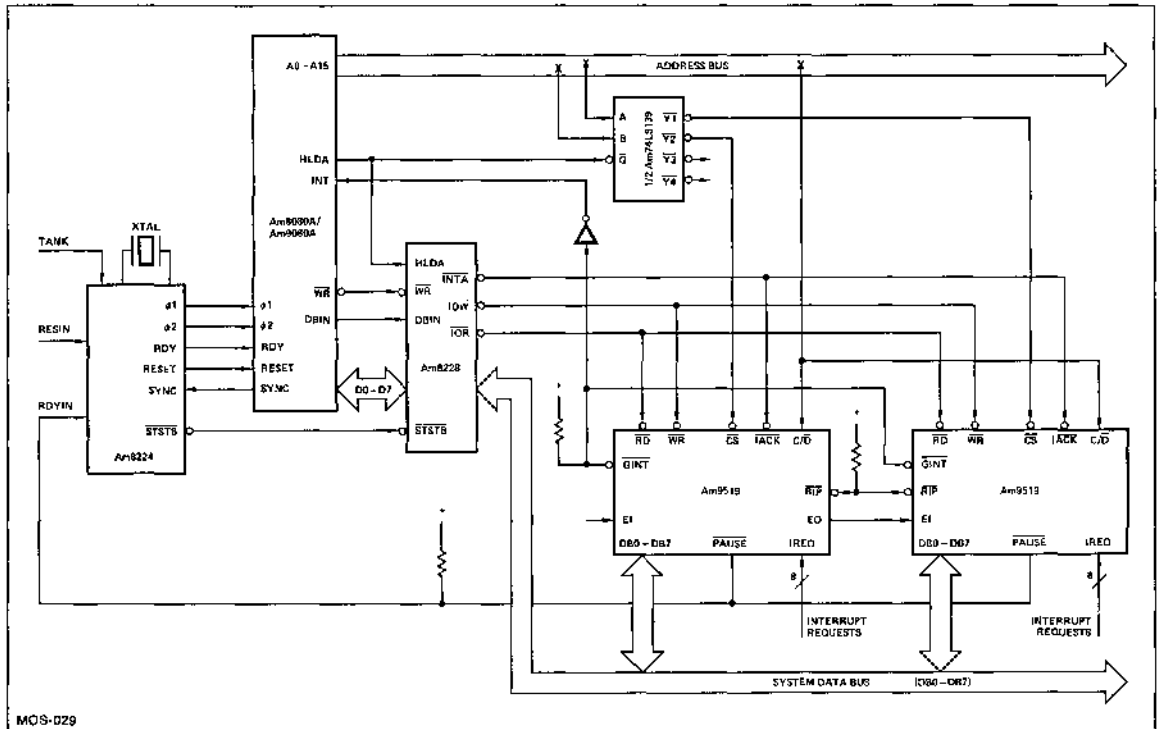
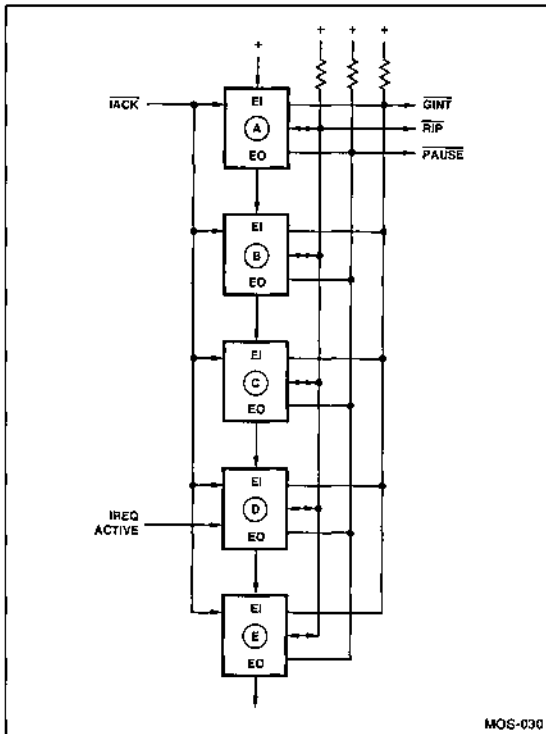
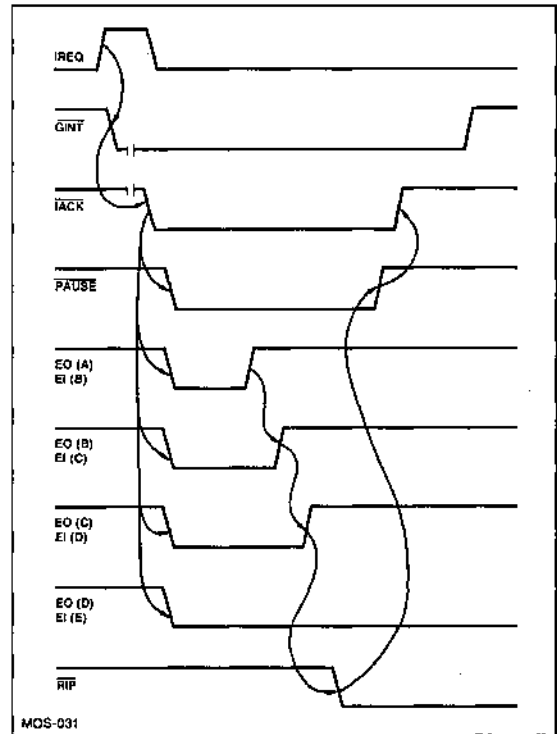

Figure 18. 16 Interrupt Configuration with 8080A/9080A.
Figure 19. Five-Chip Expansion Example.
Figure 20. Inter-Chip Priority Resolution.
Several Am9519 chips may be cascaded to expand the number of interrupts than can be handled by the system. A two-chip configuration is shown connected to an 8080A/9080A microprocessor in Figure 18. In general, expansion past a single Am9519 will require simply an added Chip Select signal for each extra chip, and perhaps an inverter for the GINT signal if the processor interrupt input is active-high. The $\overline{\text{GINT}}$, $\overline{\text{PAUSE}}$, and $\overline{\text{RIP}}$ signals are all designed to be wire-OR'ed in expanded systems.
Priority management in expanded systems is controlled by the Enable In, Enable Out and Response In Process signals. Figure 19 shows the basic interconnections for an example interrupt system that can accept up to 40 interrupts, using five Am9519 chips. Notice that $\overline{\text{IACK}}$ is wired in parallel to all five circuits, and that the $\overline{\text{GINT}}$, $\overline{\text{RIP}}$, and $\overline{\text{PAUSE}}$ lines are respectively tied together. The three pullup resistors are used to establish the high logic levels for the open-drain outputs. Enable In of the first chip (A) is allowed to float, or may be tied high. Each Enable Out signal is connected to the next lower level Enable In input. Each chip accepts eight IREQ inputs; for purposes of this example it is assumed that an active interrupt arrives at chip D in the chain.
Figure 20 shows the timing relationships for the configuration of Figure 19. When the IREQ arrives, a $\overline{\text{GINT}}$ output is generated by chip D and is used to interrupt the host processor. When the host returns an $\overline{\text{IACK}}$ pulse, all the EO lines are brought low in parallel. $\overline{\text{PAUSE}}$ also goes low, and is used to extend the $\overline{\text{IACK}}$ pulse.
It can be seen, then, that the $\overline{\text{PAUSE}}$ output will automatically adjust the position of its rising edge to accommodate the exact functional and operational conditions that occur for each particular $\overline{\text{IACK}}$ cycle. For larger systems, like that in Figure 19, operating at high temperatures with slow versions of the Am9519 and servicing low priority interrupts, the processor delay caused by $\overline{\text{PAUSE}}$ may be quite long and a few processor wait cycles may be required to extend the $\overline{\text{IACK}}$ pulse. On the other hand, when a system like Figure 18 is running at typical room temperatures with typical parts and the interrupt is a high priority one, the $\overline{\text{PAUSE}}$ output width will be quite narrow and no wait cycles will be necessary.
Assume that a new interrupt arrives at chip B in Figure 19 during the time that the first byte of a multibyte response for the interrupt at chip D is being transferred. Without the \overline{RIP} signal there would be confusion when the second \overline{IACK} pulse arrives. Both chips might try to send out response bytes since the interrupt at chip B is a higher priority, yet chip D is in the midst of a response sequence. With \overline{RIP} present, however, no problem arises. Chip D pulls \overline{RIP} low when it is selected and keeps \overline{RIP} low until its response is complete. Chip B treats \overline{RIP} as an input and will not respond to \overline{IACK} until \overline{RIP} goes high.